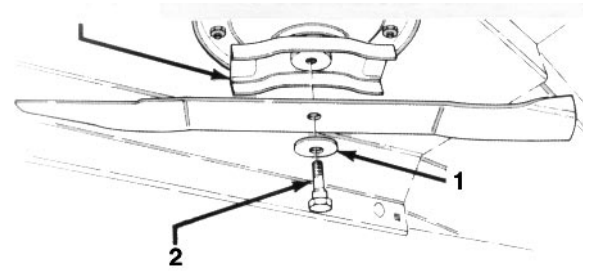

Figure 13
- Grasp the end of the blade using a rag or thickly padded glove. Remove the special screw, belleville washer and blade from the spindle assembly (Fig. 13).